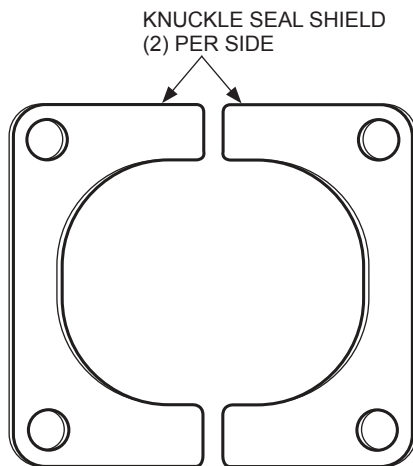

FIGURE 1
- The 4 shields (2 pieces on each side, RH and LH, will lay flat when installed). (Refer to Figure 1).